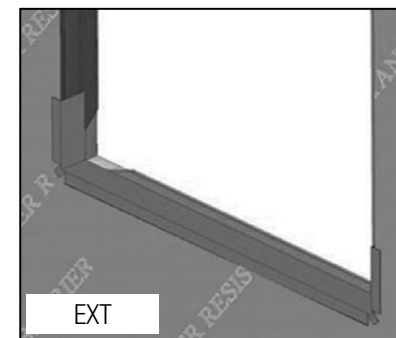

FIG. 8
D) Apply sill flashing to the rough opening as shown below. (Fig. 8)